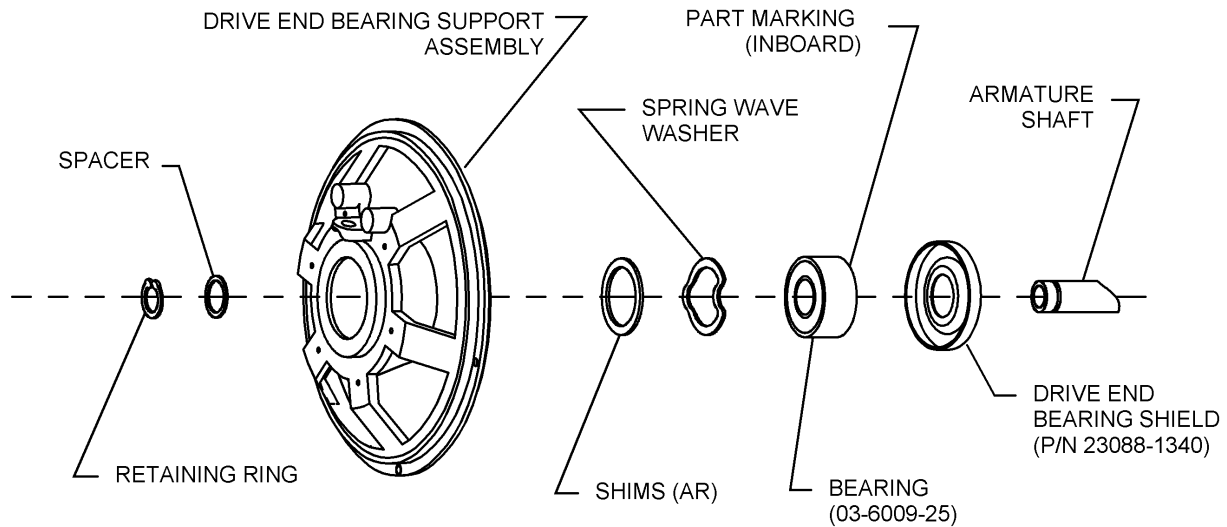

Figure 4 - Drive End Bearing Support Assembly with Preload Stack and Bearing Shield
- (6) Attach bearing and brush support assembly to armature (P/N 23085-1507) according to the ASSEMBLY section of the CMM.
- (7) Calculate and install the shim pack and spring wave washer into the drive end bearing support assembly, and install the bearing and brush support assembly with attached armature into the stator and housing assembly as specified in the ASSEMBLY section of the referenced CMM. Reference Figure 4.
- (8) Install dampener back plate (P/N 23032-2716) on the armature shaft with the recessed side facing away from the starter-generator.
- (9) Install dampener hub (P/N 23032-1916) on drive shaft (P/N 23078-1844).